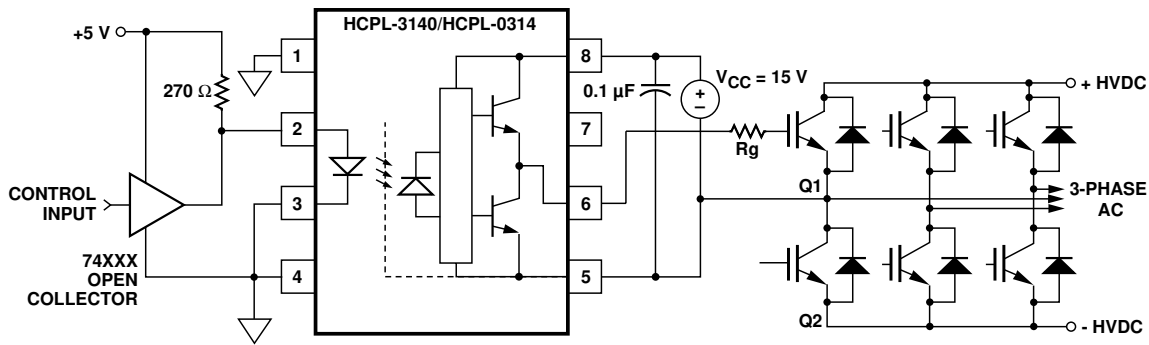
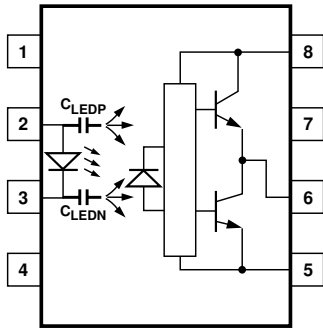
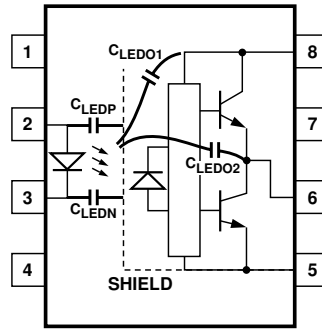

Figure 19. Recommended LED drive and application circuit for HCPL-3140/HCPL-0314.
Figure 21. Optocoupler input to output capacitance model for unshielded optocouplers.
Figure 22. Optocoupler input to output capacitance model for shielded optocouplers.
HCPL-3140/HCPL-0314 on a small PC board directly above the IGBT) can eliminate the need for negative IGBT gate drive in many applications as shown in Figure 19. Care should be taken with such a PC board design to avoid routing the IGBT collector or emitter traces close to the HCPL-3140/HCPL-0314 input as this can result in unwanted
**Step 1:** Calculate Rg minimum from the IOL peak specification. The IGBT and Rg in Figure 19 can be analyzed as a simple RC circuit with a voltage supplied by the HCPL-3140/HCPL-0314.
where  $K_{ICC} \cdot Q_g \cdot f$  is the increase in ICC due to switching and KICC is a constant of 0.001 mA/(nC\*kHz). For the circuit in Figure 19 with IF (worst case) = 10 mA, Rg = 32 Ω, Max Duty Cycle = 80%, Qg = 100 nC, f = 20 kHz and TAMAX = 85°C:
Without a detector shield, the dominant cause of optocoupler CMR failure is capacitive coupling from the input side of the optocoupler, through the package, to the detector IC as shown in Figure 21. The HCPL-3140/HCPL-0314 improves CMR performance by using a detector IC with an optically transparent Faraday shield, which diverts the capacitively coupled current away from the sensitive IC circuitry. However, this shield does not eliminate the capacitive coupling between the LED and opto-coupler pins 5-8 as shown in Figure 22. This capacitive coupling causes perturbations in the LED current during common mode transients and becomes the major source of CMR failures for a shielded optocoupler. The main design objective of a high CMR LED drive circuit becomes keeping the LED in the proper state (on or off) during common mode transients. For example, the recommended application circuit (Figure 19), can achieve 10 kV/μs CMR while minimizing component complexity.
supplied by the LED, and it is not recommended for applications requiring ultra high CMR1 performance. The alternative drive circuit which like the recommended application circuit (Figure 19), does achieve ultra high CMR performance by shunting the LED in the off state.